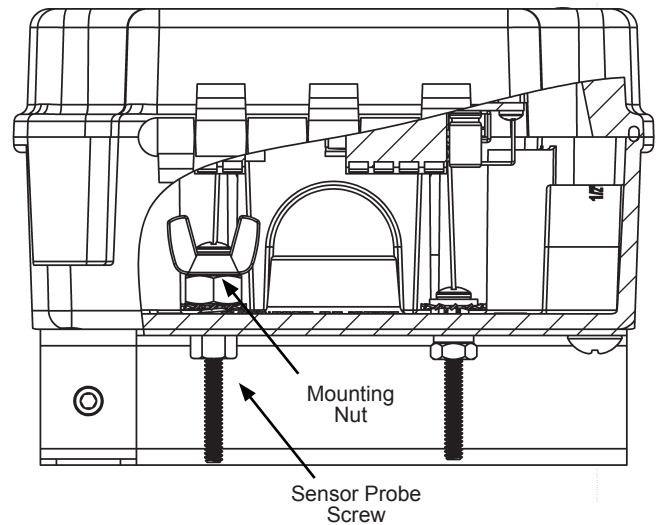

Fig. 5: Leak Detector with Sensor in a BAPI-Box
- Set the transmitter where water is most likely to be a problem or in the collection pan under the water coil or heater (Fig. 5).
- Adjust the depth screw on the sensor probe in the middle of the open enclosure to the alarm depth (Fig. 5). If using a remote water sensor, adjust the depth screw as shown in Fig. 9. The rope sensor detects water 1/8" off the floor and has no adjustment.